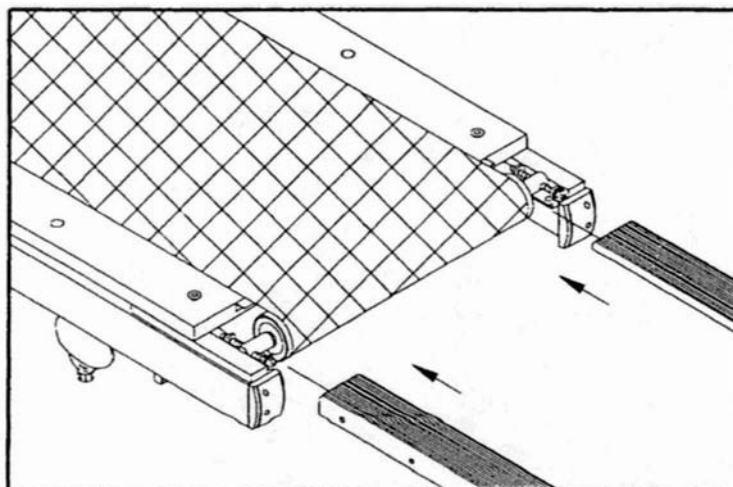

Fig.9
4. Place the staging platform. (see Fig.9)